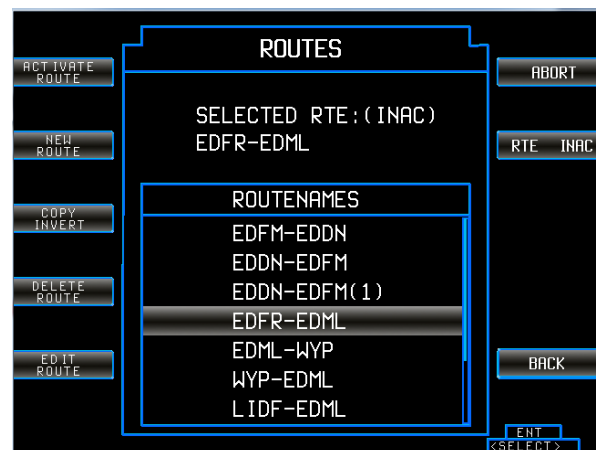

Figure 63: "RTE", "RTE ACT", "RTE INAC"
- If a route is set to inactive, its state is displayed "INAC" in brackets in the text box above the route list (Figure 63).